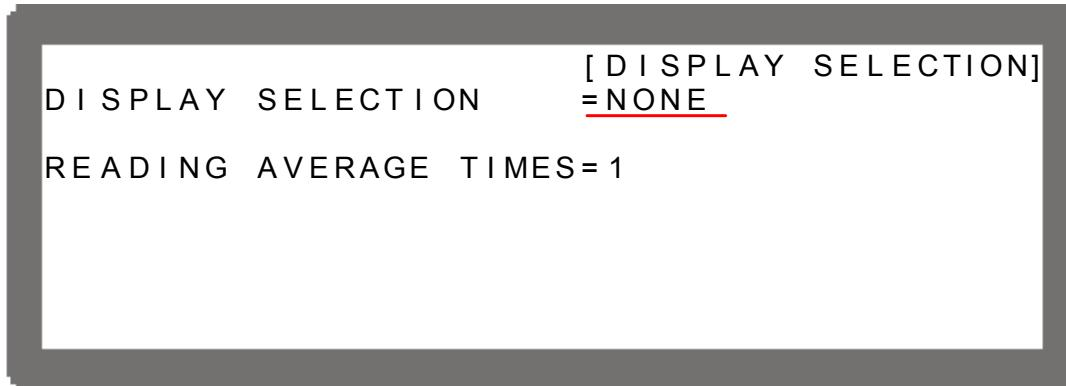

Figure 3-66
2. Press “” to enter into DISPLAY SELECTION as shown in Figure 3-66.
1. Use the “, ”, “, ” keys to move the cursor to the column to be set as shown in Figure 3-66.